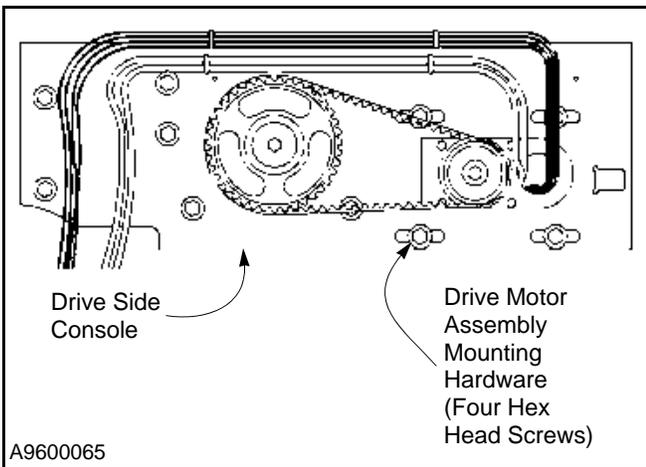

Figure 57
5. Loosen the four hex head cap screws, move the motor toward the wall, and remove the primary drive belt. (See Figure 57.)